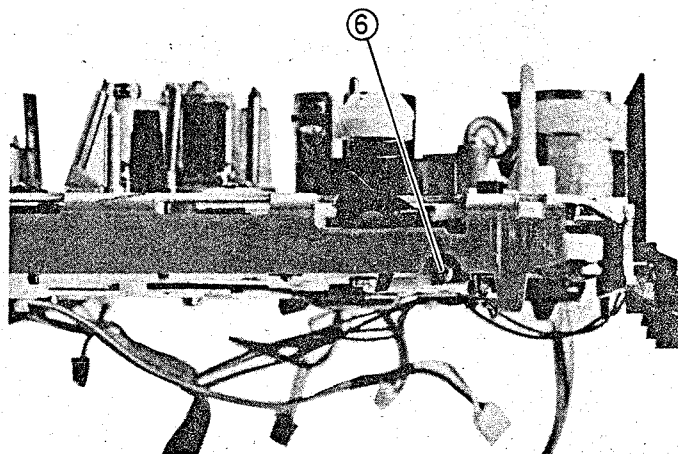

Fig. 2-73 Cassette Holder Switch Removal
6. Remove one (1) screw holding the cassette holder switch. (See Fig. 2-73)